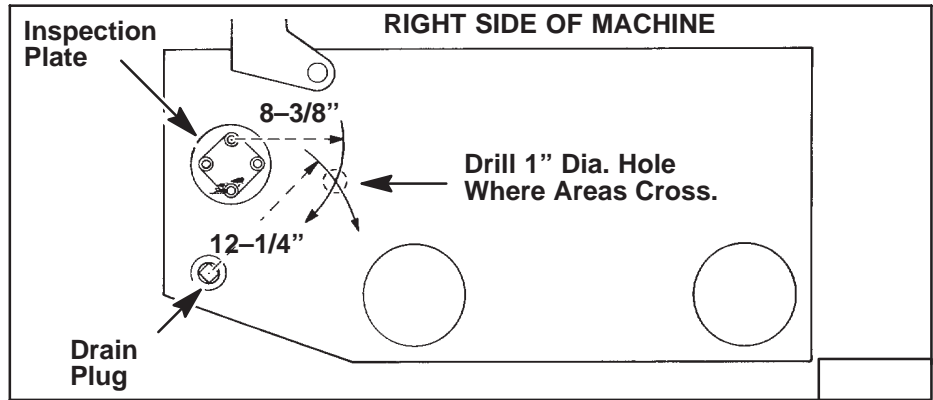

Fig. 1-21 Locating Fuel Adjustment Hole (Petter)
NOTE: When loader is not equipped with a hole in loader side wall at fuel adjustment screw location see Fig. 1-21 for hole drilling instructions. The hole will make fuel adjusting easier.
3. Put a screw driver into hole (Fig.1-21). Turn in to reduce fuel supply, turn out to increase fuel supply.